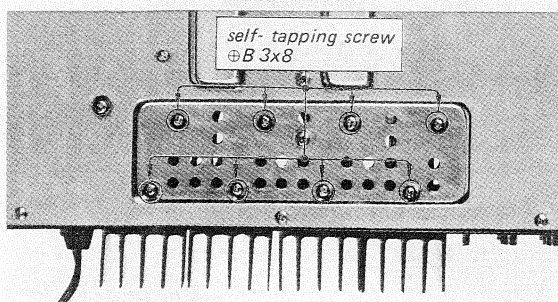

Fig. 2-8 Heat sink removal
3. Remove the four self-tapping screws ($\oplus B 3 \times 8$) securing the pair of heat sinks to the chassis as shown in Fig. 2-8.